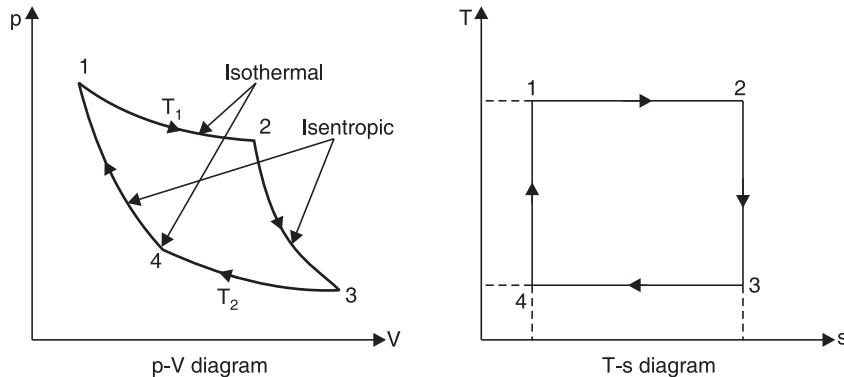

Fig. 4.3. Carnot cycle.
**Solution.** Refer to Fig. 4.3.